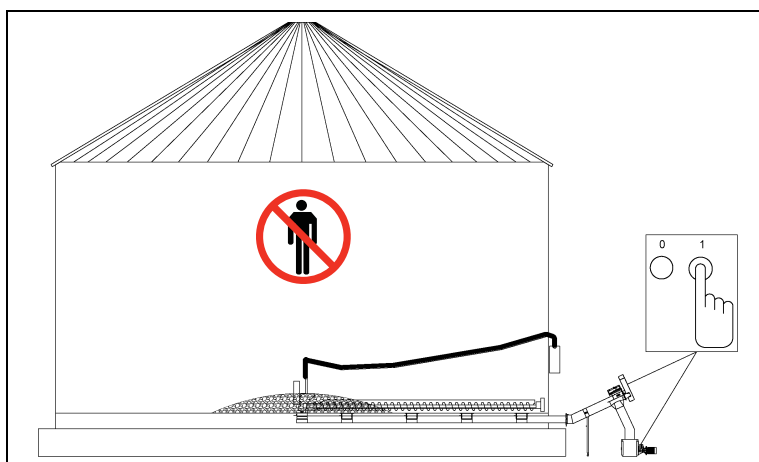

Figure 6N
14. Close doors and start unload systems. (See Figure 6N.)